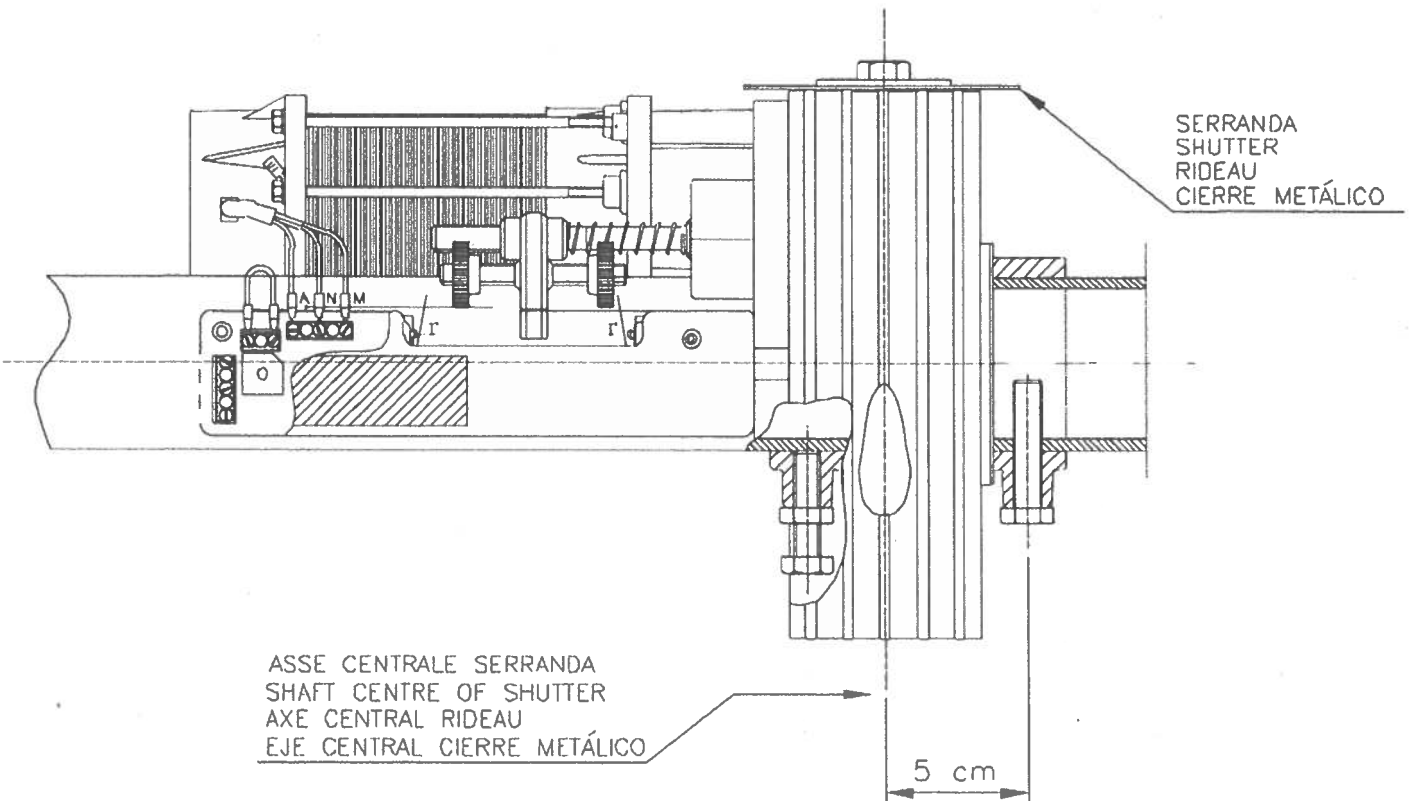

FIG. 1
- 1) Drill a 10 mm diameter hole 5 cm from the same location as the M10 threaded hole on centre of the shutter's shaft (see fig. 1);
- 13) Tighten by hand the gear by 1-1/2 turns by bringing the grip towards microswitch I (down) fig. 1 (it must turn easily);
- 19) Should the shutter need to be installed contrary to the description in fig. 1, the steps described above should be carried out to the contrary as microswitch II will stop the descent and microswitch I will stop the opening.